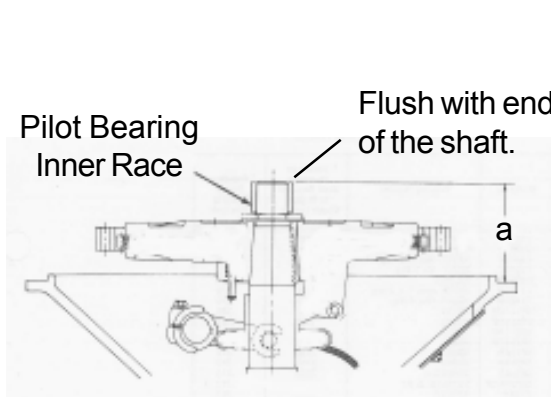

Figure 6.
3. (See figure 6) Carefully measure dimension (a) as shown. Record the measurement.